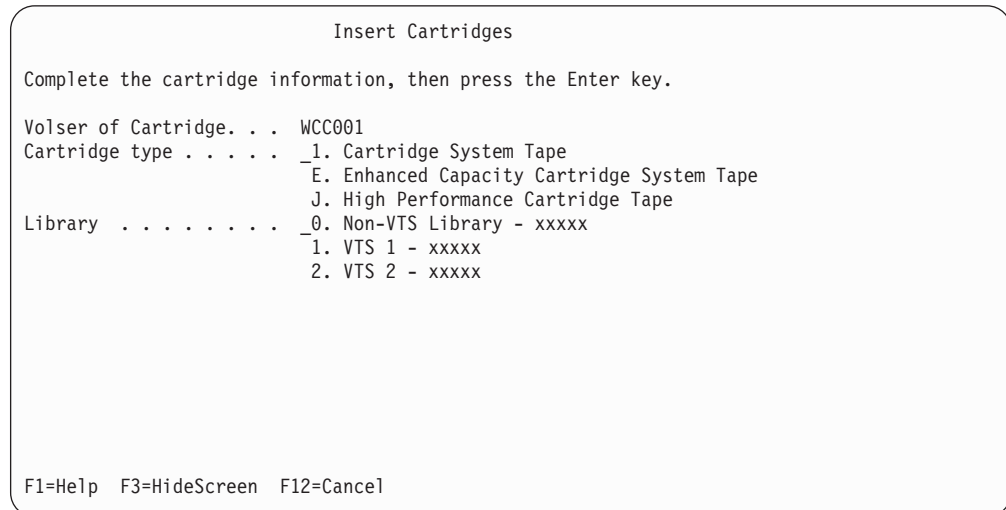

Figure 144. Manual Mode Insert Cartridges Screen
- F5** Allows you to manually add volumes to the tape library. It displays the Insert Cartridges screen that contains prompts for cartridge insertion. See Figure 144 on page 233.
- On the Insert Cartridges screen (see Figure 144), enter the volser of the cartridge to be inserted. The cartridge volser is the set of up to six alphanumeric characters on the label attached to the end of the cartridge.